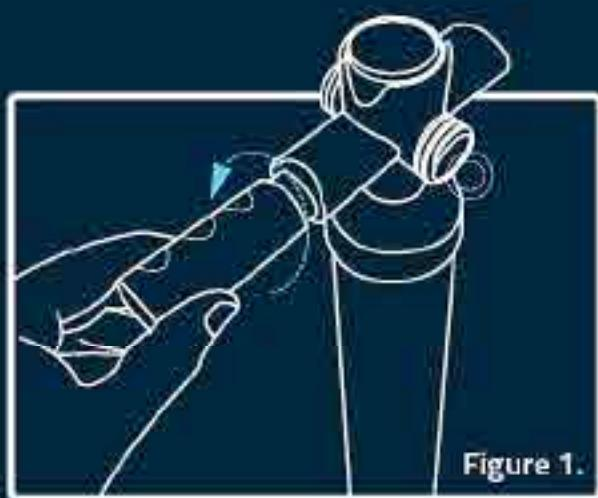

Figure 1.
- To make the pump more compact, remove the pump handles by rotating counterclockwise. **Figure 1** until fully detached and slide onto the two handle mounts. **Figure 2**